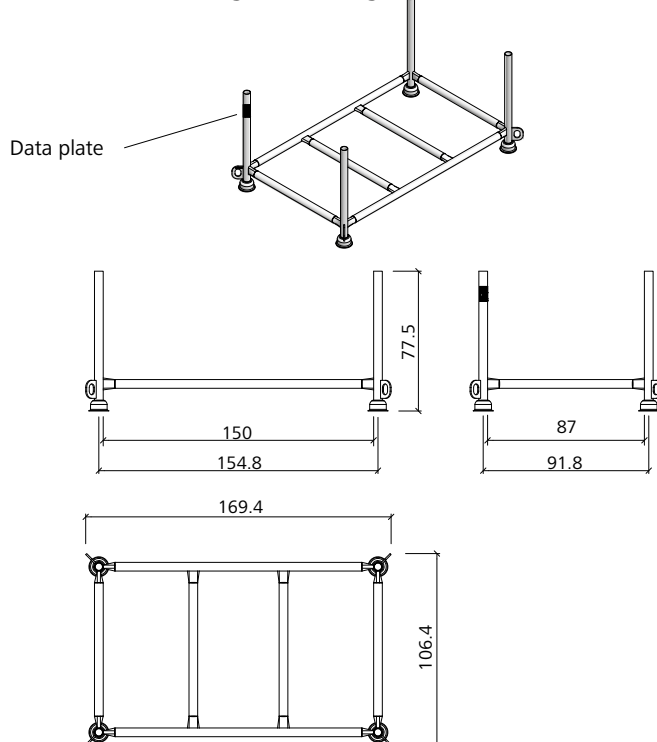

Fig. 1
- The stacking rack must not be used if the data plate is missing or if the load capacity data is illegible (Fig. 1 and Fig. 12). If the data plate is missing, these operating instructions are no longer valid (see section 8).
The data plate (Fig. 1 and Fig. 12) must be present and the load capacity data must be legible.